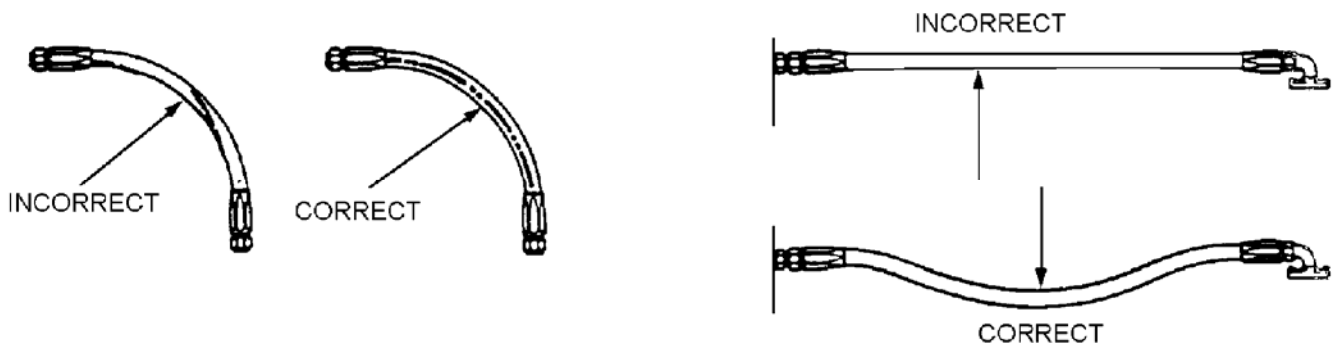

Figure 1. Hose Assembly Installation
d. Install hose or hose assemblies without twisting, chafing, or overbending (Figure 1).
e. Install hose or hose assemblies with a slight bow or slack to compensate for contraction pressure on the line (Figure 1).